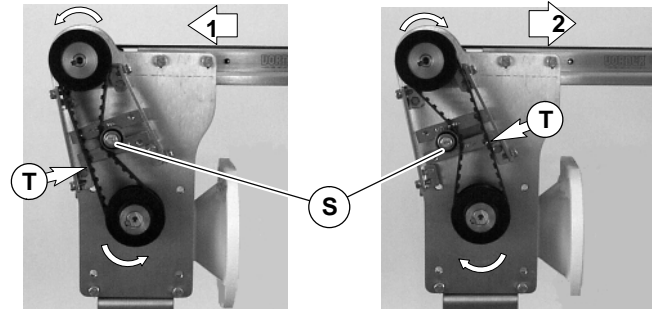

Figure 8
6. Depending on conveyor belt travel (1 or 2 of Figure 8), locate timing belt tensioner (S), as shown. Tension timing belt to obtain 1/8" (3 mm) deflection